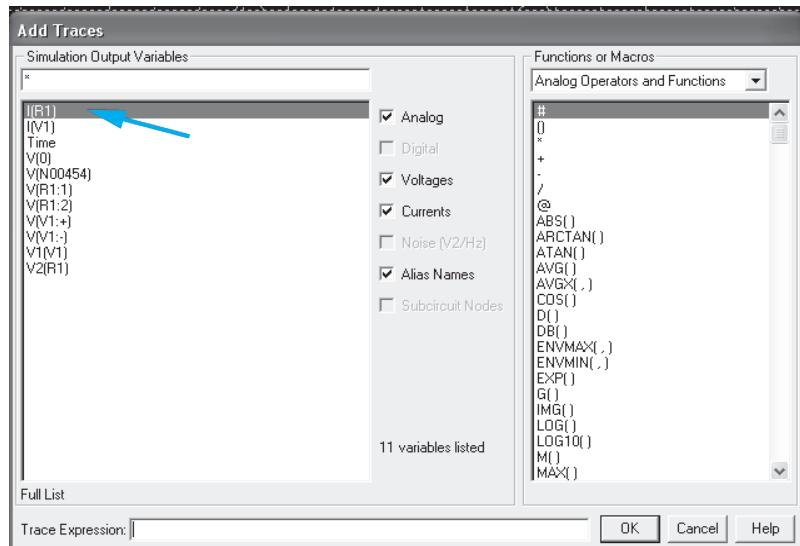

FIGURE 2.77 Add traces.
9. A window will pop up as shown in Figure 2.77. The “add trace” window allows the user to perform mathematic summation, subtraction, multiplication, and so on on the “Simulation Output Variables” in the “Trace Expression” column for various plotting. However, in this section, we only intend to observe the current flow through the resistor R1; therefore, click “I(R1)” and choose OK, or double-click “I(R1)” in Figure 2.77.